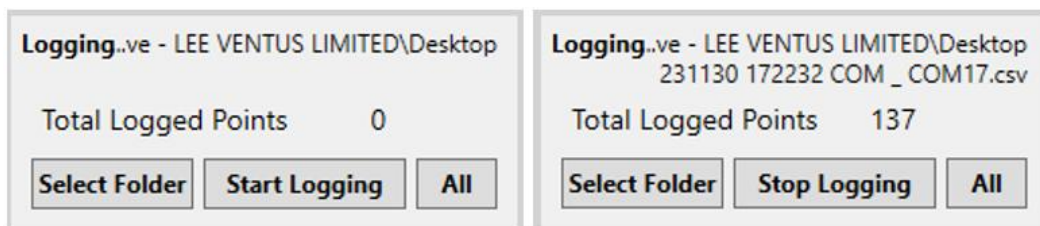

Figure 48. Data logging interface when target folder is selected (left). Data logging interface while data logging is active (right).
- Once the folder is selected the interface will indicate the new location as shown in Figure 48. When the logging is started the app will automatically create a .CSV log file in the target folder.
- Click the Start Logging button to initiate the logging. The interface shows the name of the created file and the number of logged points going up as shown in Figure 48. Once sufficient data is obtained click the Stop Logging data.